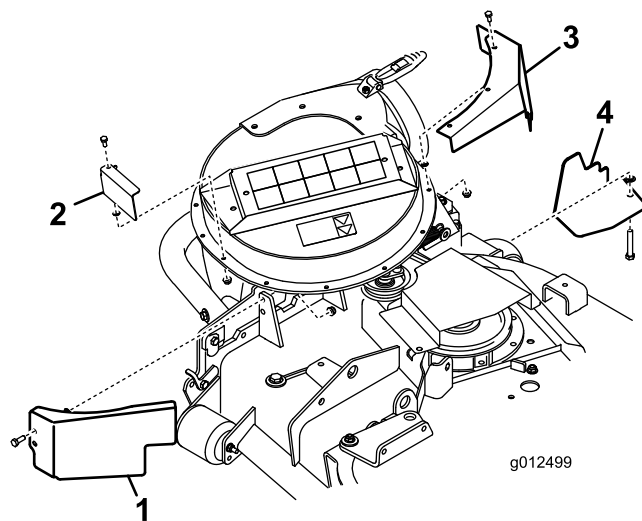

Figure 3
1. Remove the existing hardware around the blower for the left guard, lower guard and back guard (Figure 3). Save all existing hardware
2. Install the left guard with existing hardware (Figure 3).
3. Install the back guard with existing hardware (Figure 3).
4. Install the lower guard with existing hardware (Figure 3).
5. Install the front guard with a bolt (5/16 x 7/8 inch) and a flange nut (5/16 inch) (Figure 3).